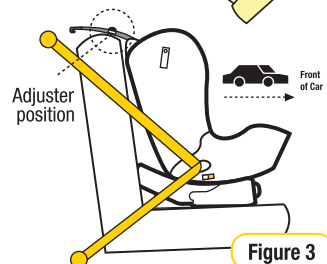

Figure 3
- Step 3:** Does the sash (shoulder) belt sit across the middle of the shoulder, not on the neck or out near the arm? (refer Figure 3).
Step 2: Continue to shorten until you have reached the desired position at the rear of the restraint (see Figure 3).